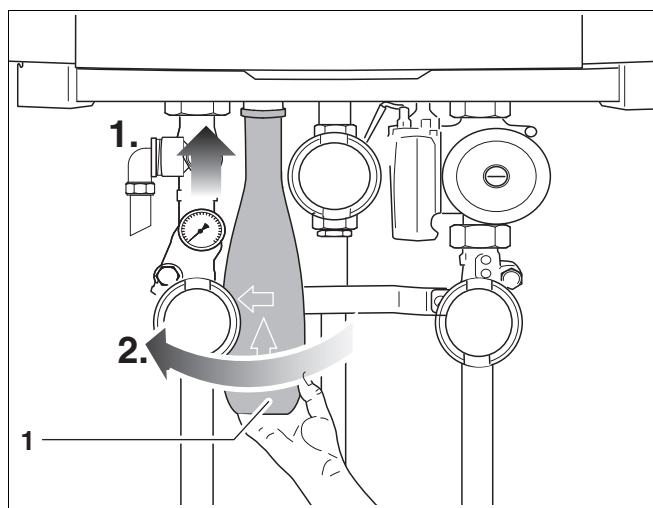

fig. 14 Installing the syphon
- Connect the syphon (fig. 14, **item 1**) to the condensate drain outlet (CDO).